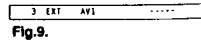

Fig. 9.
- 5 Using  $\Delta$ + or  $\nabla$ -, select C (to preset a regular channel), or F (to tune in by frequency) and press OK. The first element of the "CH" number will be highlighted. If you have selected EXT in step 4, select the video input source with  $\Delta$ + or  $\nabla$ -. (See Fig. 9.)